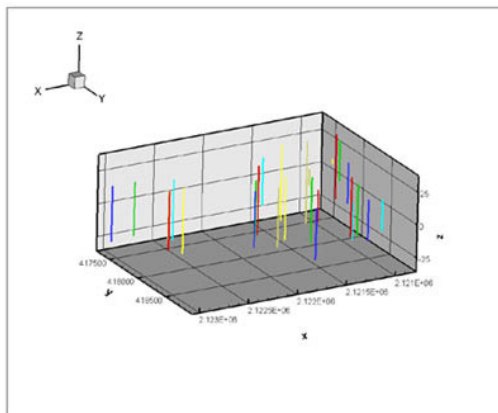

Figure 31-20. The Excel well data plotted in Tecplot.
4. Switch to 3D Cartesian plot mode to see the location and measurement depths of the well samples. The resulting plot is shown in Figure 31-20. Your wells have different depths, so